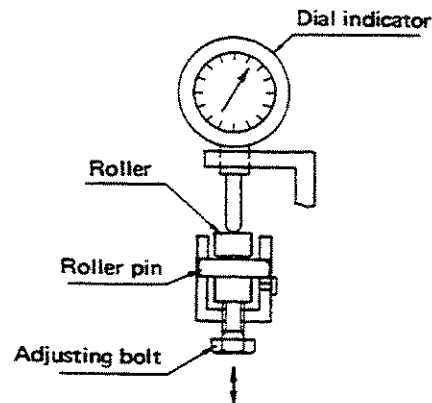

Fig. 4-1-28
1) The tappet roller assembly consists of roller and roller pin. Check these parts for wear in the following manner: Hold the probe of a dial indicator in contact with the roller as illustrated in Fig. 4-1-28 and screw in and out the adjusting bolt and note the reading of the dial indicator. If the amount of play is in excess of 0.2mm, replace both of the parts.